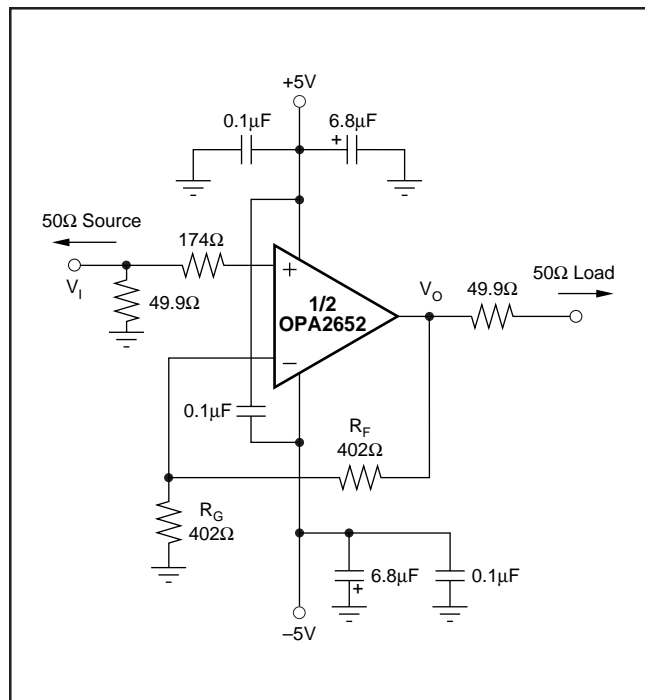
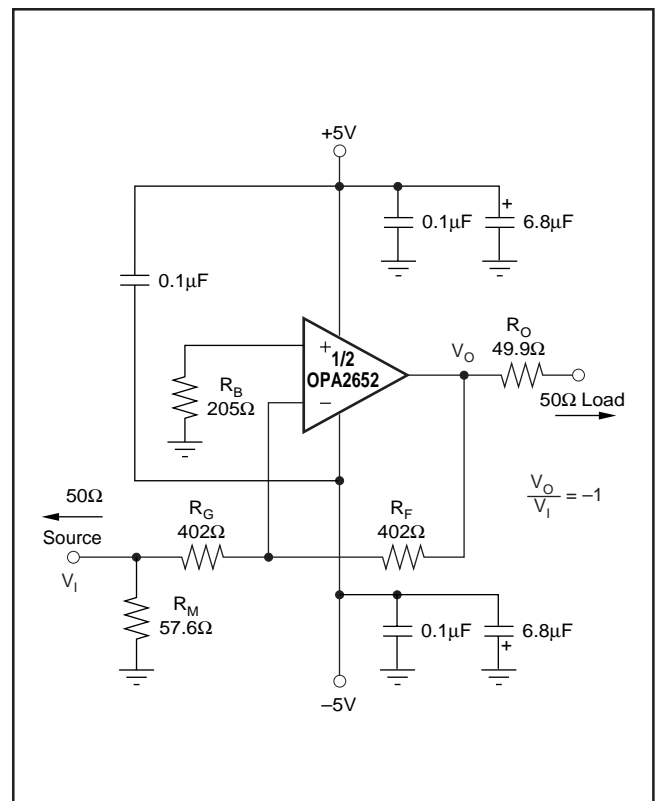

FIGURE 1. DC-Coupled, $G = +2$, Bipolar Supply, Specification and Test Circuit.
FIGURE 2. DC-Coupled, $G = -1$, Bipolar Supply, Specification and Test Circuit.
At $T_A = +25^\circ C$, $G = +2$, $R_F = 402\Omega$, and $R_L = 100\Omega$, unless otherwise noted. See Figures 1 and 2.
Figure 1 shows the DC-coupled, gain of +2, dual power supply circuit configuration used as the basis of the $\pm 5\text{V}$ Specifications and Typical Performance Curves. This is for one channel. The other channel is connected similarly. For test purposes, the input impedance is set to 50Ω with a resistor to ground and the output impedance is set to 50Ω with a series output resistor. Voltage swings reported in the specifications are taken directly at the input and output pins, while output powers (dBm) are at the matched 50Ω load. For the circuit of Figure 1, the total effective load will be $100\Omega \parallel 804\Omega$. Two optional components are included in Figure 1.
Figure 2 shows the DC-coupled gain of -1 , bipolar supply circuit configuration which is the basis of the Specifications and Typical Performance Curves at $G = -1$. The input impedance matching resistor (57.6Ω) used for testing gives a 50Ω input load. A resistor (205Ω) connects the non-inverting input to ground. This provides the DC source resistance matching to cancel outputs errors due to input bias current.
A good rule of thumb is to target the parallel combination of R_F and R_G (Figure 1) to be less than approximately 300Ω . The combined impedance $R_F \parallel R_G$ interacts with the inverting input capacitance, placing an additional pole in the feedback network, and thus a zero in the forward response. Assuming a $2pF$ total parasitic on the inverting node, holding $R_F \parallel R_G < 300\Omega$ will keep this pole above $250MHz$. By itself, this constraint implies that the feedback resistor R_F can increase to several $k\Omega$ at high gains. This is acceptable as long as the pole formed by R_F and any parasitic capacitance appearing in parallel is kept out of the frequency range of interest.
Voltage feedback op amps exhibit decreasing closed-loop bandwidth as the signal gain is increased. In theory, this relationship is described by the Gain Bandwidth Product (GBP) shown in the specifications. Ideally, dividing GBP by the non-inverting signal gain (also called the Noise Gain, or NG) will predict the closed-loop bandwidth. In practice, this only holds true when the phase margin approaches 90° , as it does in high gain configurations. At low gains (increased feedback factor), most amplifiers will exhibit a wider bandwidth and lower phase margin. The OPA2652 is compensated to give a flat response in a non-inverting gain of 1 (Figure 1). This results in a typical gain of +1 bandwidth of 700MHz, far exceeding that predicted by dividing the 200MHz GBP by $NG = 1$. Increasing the gain will cause the phase margin to approach 90° and the bandwidth to more closely approach the predicted value of (GBP/NG) . At a gain of +5, the 45MHz bandwidth shown in the Typical Specifications is close to that predicted using this simple formula.
Since the OPA2652 is a general purpose, wideband voltage feedback op amp, all of the familiar op amp application circuits are available to the designer. Inverting operation is one of the more common requirements and offers several performance benefits. Figure 2 shows a typical inverting configuration.
In the inverting configuration, three key design considerations must be noted. The first is that the gain resistor (R_G) becomes part of the signal channel input impedance. If input impedance matching is desired (which is beneficial whenever the signal is coupled through a cable, twisted pair, long PC board trace or other transmission line conductor), R_G may be set equal to the required termination value and R_F adjusted to give the desired gain. This is the simplest approach and results in optimum bandwidth and noise performance. However, at low inverting gains, the resultant feedback resistor value can present a significant load to the amplifier output. For an inverting gain of -1 , setting R_G to 50Ω for input matching eliminates the need for R_M but requires a 50Ω feedback resistor. This has the interesting advantage that the noise gain becomes equal to 2 for a 50Ω source impedance—the same as the non-inverting circuits considered above. However, the amplifier output will now see the 50Ω feedback resistor in parallel with the external load. In general, the feedback resistor should be limited to the 200Ω to $1.5k\Omega$ range. In this case, it is preferable to increase both the R_F and R_G values as shown in Figure 2, and then achieve the input matching impedance with a third resistor (R_M) to ground. The total input impedance becomes the parallel combination of R_G and R_M .
The second major consideration, touched on in the previous paragraph, is that the signal source impedance becomes part of the noise gain equation and influences the bandwidth. For the example in Figure 2, the R_M value combines in parallel with the external 50Ω source impedance, yielding an effective
driving impedance of $50\Omega \parallel 57.6\Omega = 26.8\Omega$. This impedance is added in series with R_G for calculating the noise gain (NG). The resultant NG is 1.94 for Figure 2, (an ideal 0Ω source would cause $NG = 2.00$).
The third important consideration in inverting amplifier design is setting the bias current cancellation resistor on the non-inverting input (R_B). If this resistor is set equal to the total DC resistance looking out of the inverting node, the output DC error, due to the input bias currents, will be reduced to $(\text{Input Offset Current}) \cdot R_F$. If the 50Ω source impedance is DC-coupled in Figure 2, the total resistance to ground on the inverting input will be 429Ω . Combining this in parallel with the feedback resistor gives 208Ω , which is close to the $R_B = 205\Omega$ used in Figure 2. To reduce the additional high frequency noise introduced by this resistor, it is sometimes bypassed with a capacitor. As long as $R_B < 300\Omega$, the capacitor is not required since its total noise contribution will be much less than that of the op amp's input noise voltage.
The OPA2652 provides good distortion performance into a 100Ω load on ±5V supplies. Increasing the load impedance improves distortion directly. Remember that the total load includes the feedback network; in the non-inverting configuration (Figure 1) this is sum of $R_F + R_G$, while in the inverting configuration, it is just R_F . Also, providing an additional supply decoupling capacitor (0.1μF) between the supply pins (for bipolar operation) improves the 2nd-order distortion slightly (3dB to 6dB).
Evaluating these two equations for the OPA2652 circuit and component values shown in Figure 1 will give a total output spot noise voltage of $17nV/\sqrt{Hz}$ and a total equivalent input spot noise voltage of $8.4nV/\sqrt{Hz}$. This is including the noise added by the bias current cancellation resistor (205Ω) on the non-inverting input. This total input-referred spot noise voltage is only slightly higher than the $8nV/\sqrt{Hz}$ specification for the op amp voltage noise alone. This will be the case as long as the impedances appearing at each op amp input are limited to the previously recommend maximum value of 300Ω. Keeping both ($R_F \parallel R_G$) and the non-inverting input source impedance less than 300Ω will satisfy both noise and frequency response flatness considerations. Since the resistor-induced noise is relatively negligible, additional capacitive decoupling across the bias current cancellation resistor (R_B) for the inverting op amp configuration of Figure 2 is not required.
The balanced input stage of a wideband voltage feedback op amp allows good output DC accuracy in a wide variety of applications. Although the high speed input stage does require relatively high input bias current (typically 4μA out of each input terminal), the close matching between them may be used to significantly reduce the output DC error caused by this current. This is done by matching the DC source resistances appearing at the two inputs. This reduces the output DC error due to the input bias currents to the offset current times the feedback resistor. Evaluating the configuration of Figure 1, using worst-case +25°C input offset voltage and current specifications, gives a worst-case output offset voltage equal to:
As an example, compute the maximum T_J using an OPA2652E (SOT23-8 package) in the circuit of Figure 1 operating at the maximum specified ambient temperature of $+85^{\circ}\text{C}$ and with both outputs driving 2.5V_{DC} into a grounded 100Ω load.